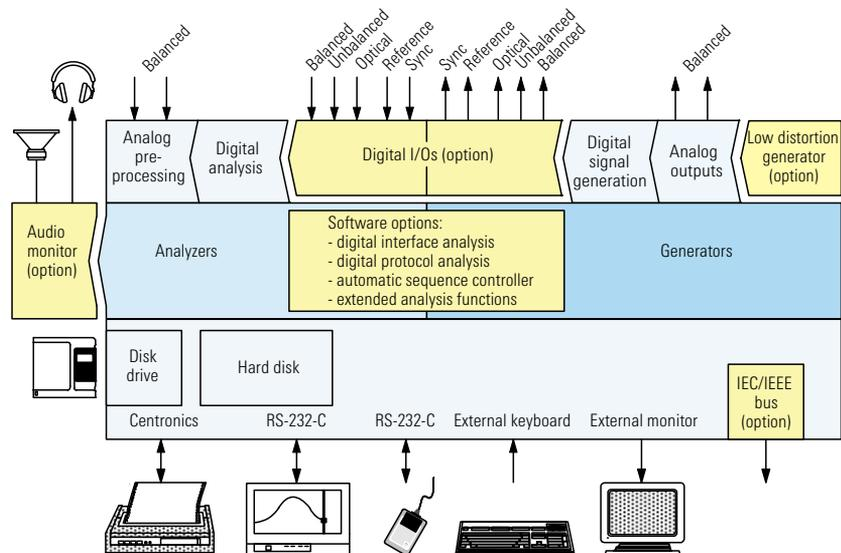

Fig. 9: Individual interference components can easily be found with the aid of the jitter spectrum.
- ◆ Measurement of jitter amplitude and display of jitter signal in the frequency and time domain (Figs 9 and 10).